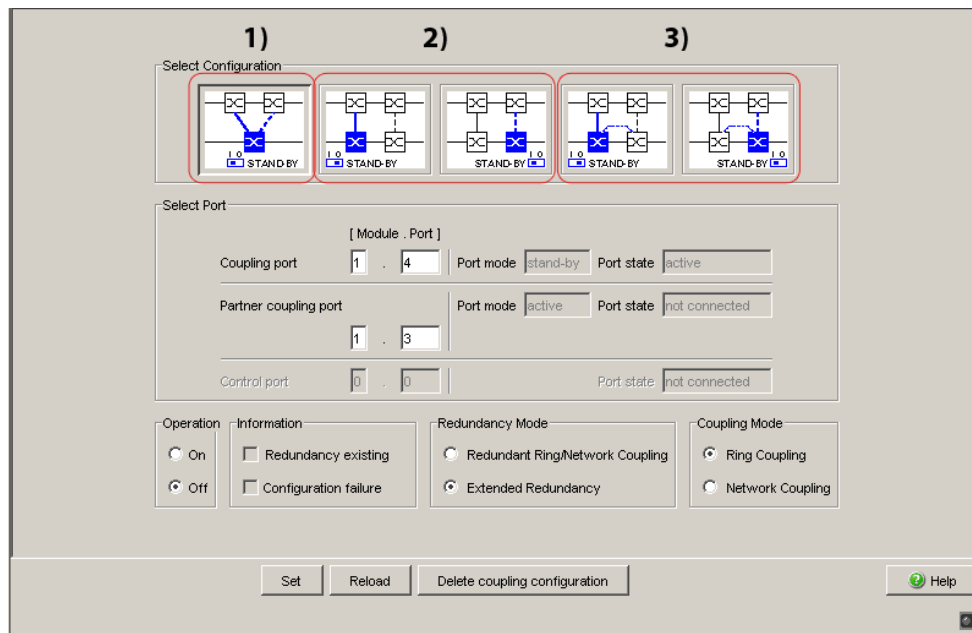

Figure 22: Choosing the ring coupling configuration (when the DIP switch is off, or for devices without a DIP switch)
- You first select the configuration you want: One-Switch coupling (“1”), two-Switch coupling (“2”) or two-Switch coupling with control line (“3”), (see fig. 22).